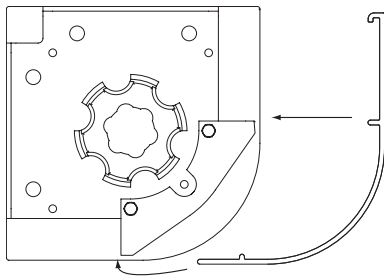

Figure 6
- ① Mount endcaps and follow steps outlined in "Shade Installation" section to assemble shade.
- ② Run electrical wiring (see "Electrical Connections").
- ③ Set limits (see "Adjustments").
- ④ Install fascia (see Fig. 6).